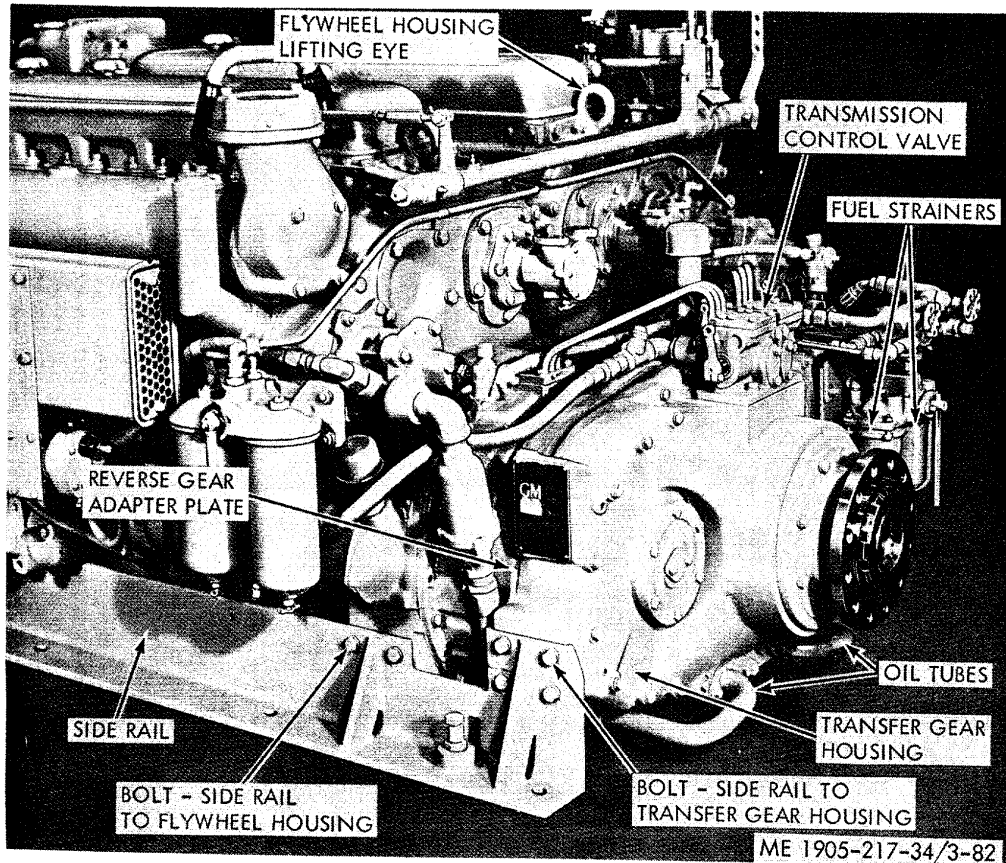

Figure 3-82. Transfer gear housing and flywheel housing, removal and installation.
- (1) Drain oil from transfer gear and flywheel housings.
- (2) Disconnect the two transfer gear housing to reverse gear housing oil tubes (fig. 3-82).